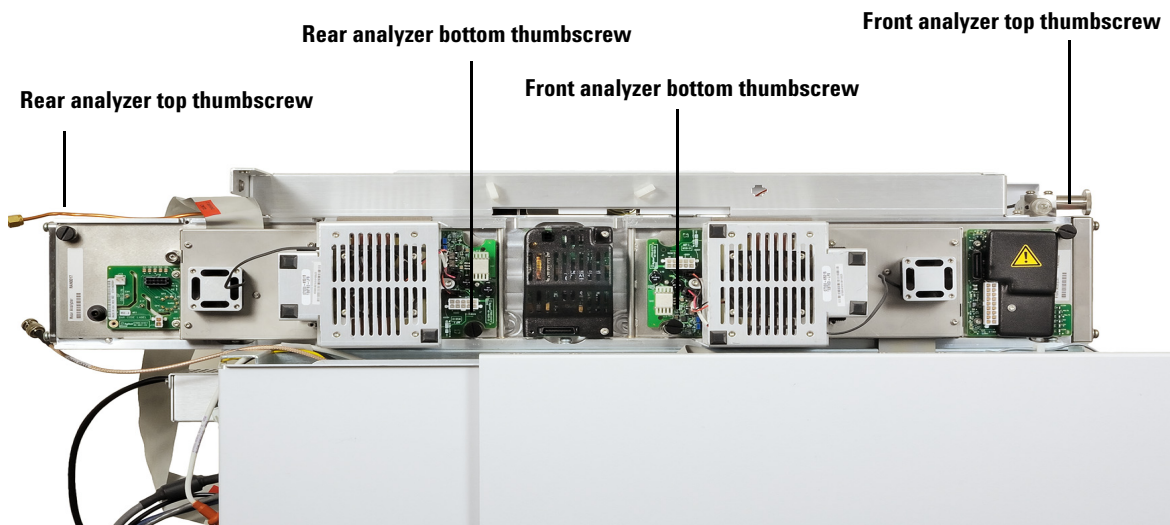

Figure 15 Side plate thumbscrews
- 7 Finger-tighten the side plate thumbscrews for both analyzers. (See Figure 15).